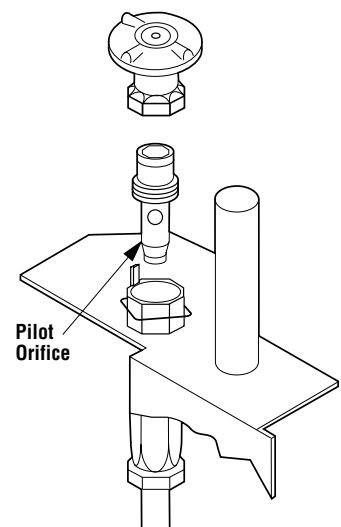

Figure 25
Step 6. Refer to **Figure 25** and remove the pilot hood assembly to access the hexed pilot orifice. Remove and replace the orifice with the one provided with the kit.